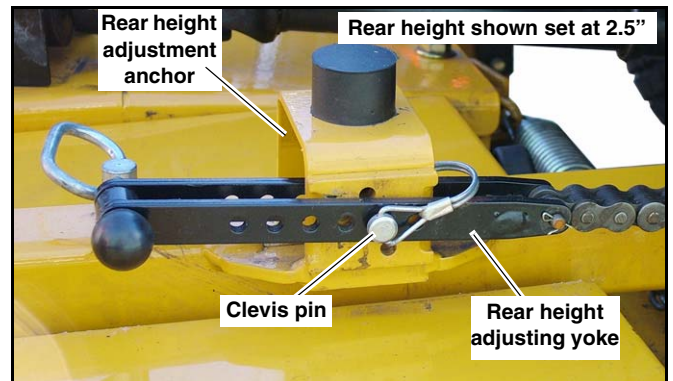
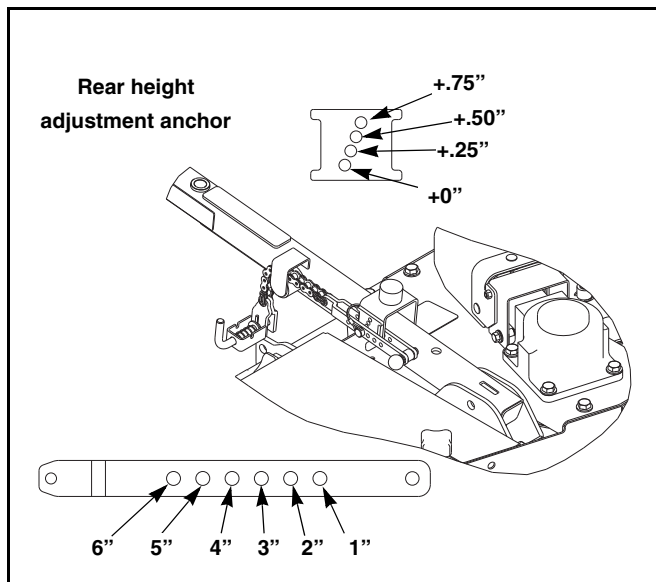

Fig. 3-9
Fig. 3-13
Lower the rear of the deck .25" at the rear height adjustment pin hole. Fig. 3-9 and 3-13
2. Remove the clevis pin from the rear height adjusting yoke. Locate the appropriate hole in the yoke and in the rear height adjustment anchor and insert the clevis pin through both and secure in place. Fig. 3-9 & Fig. 3-13